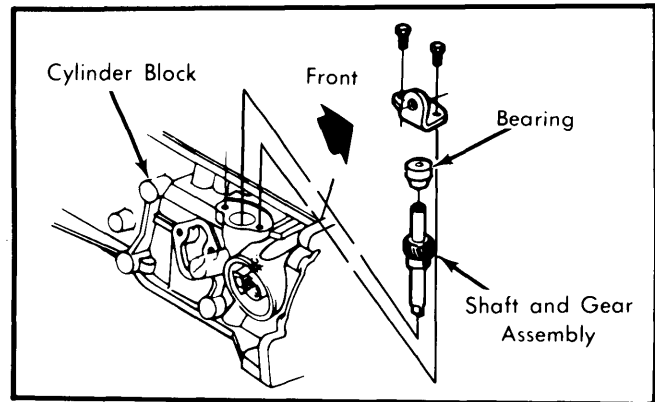

Fig. 7 Removing Oil Pump Drive Shaft
2) Remove alternator, lower alternator bracket and front engine mount bracket assembly. Remove oil pump drive shaft and gear assembly. Remove front pulley hub and timing gear front cover. See Fig. 7.